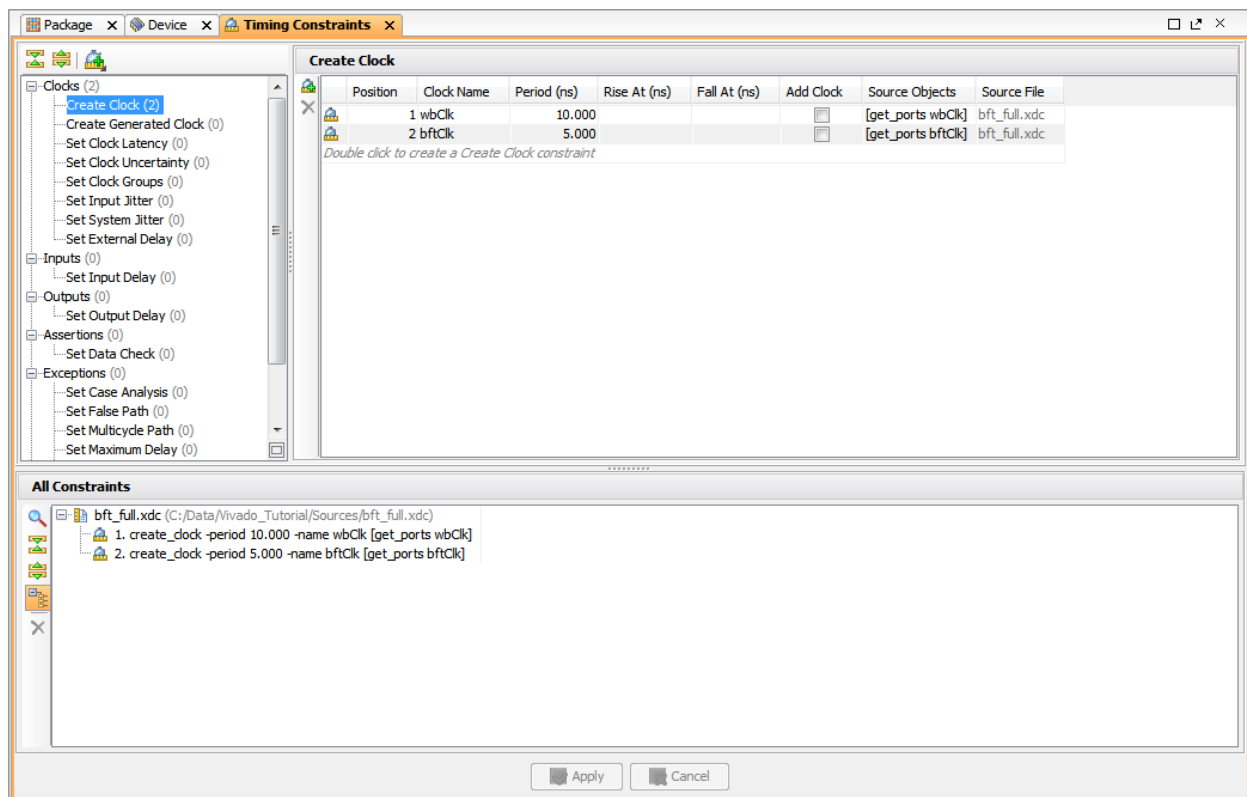

Figure 4: Define Timing Constraints
2. In the left hand tree view of the Timing Constraints window, **Double-click** on **Create Clock** under the Clocks category, as shown in Figure 4.